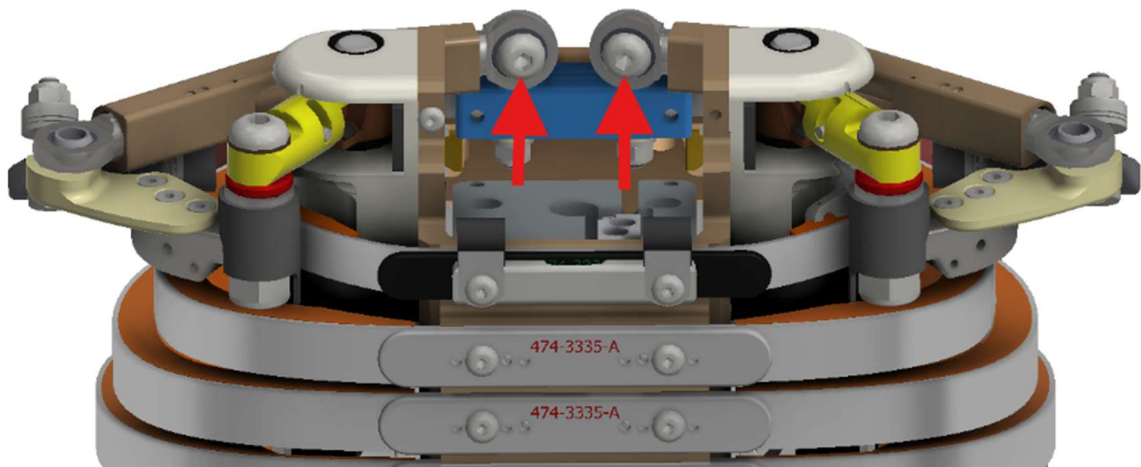

Figure 5-68. Attach the Clavicle Assembly (474-3508) to the Clavicle-Sternum Adaptor (474-3041-A)
5.3.33 Attach the Clavicle Assembly (474-3508) to the Clavicle-Sternum Adaptor (474-3041-A) using two M8 X 1.25 X 16 LG. BHCS (Figure 5-68).